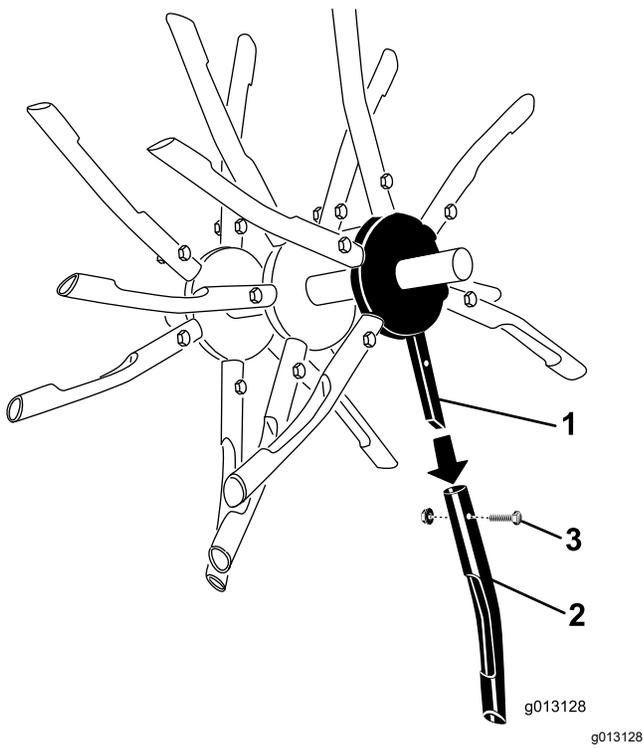

Figure 33
4. If any are damaged or broken, remove the nut and bolt securing the tine to the tine assembly (Figure 33).